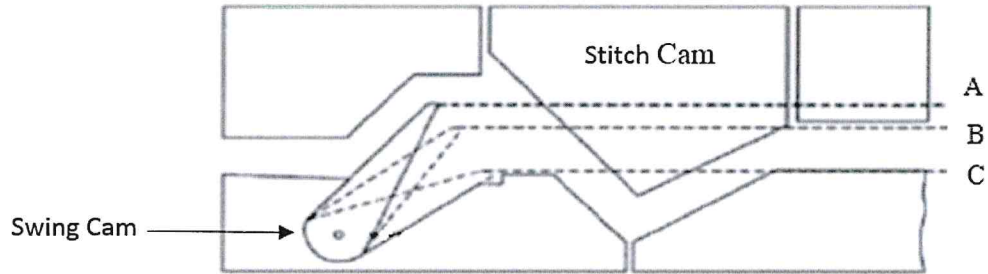

Figure 3(c) / Gambarajah 3(c)
- (c) Based on Figure 3(c), explain the type of loop produced according to the location of swing cam in position A, B and C.